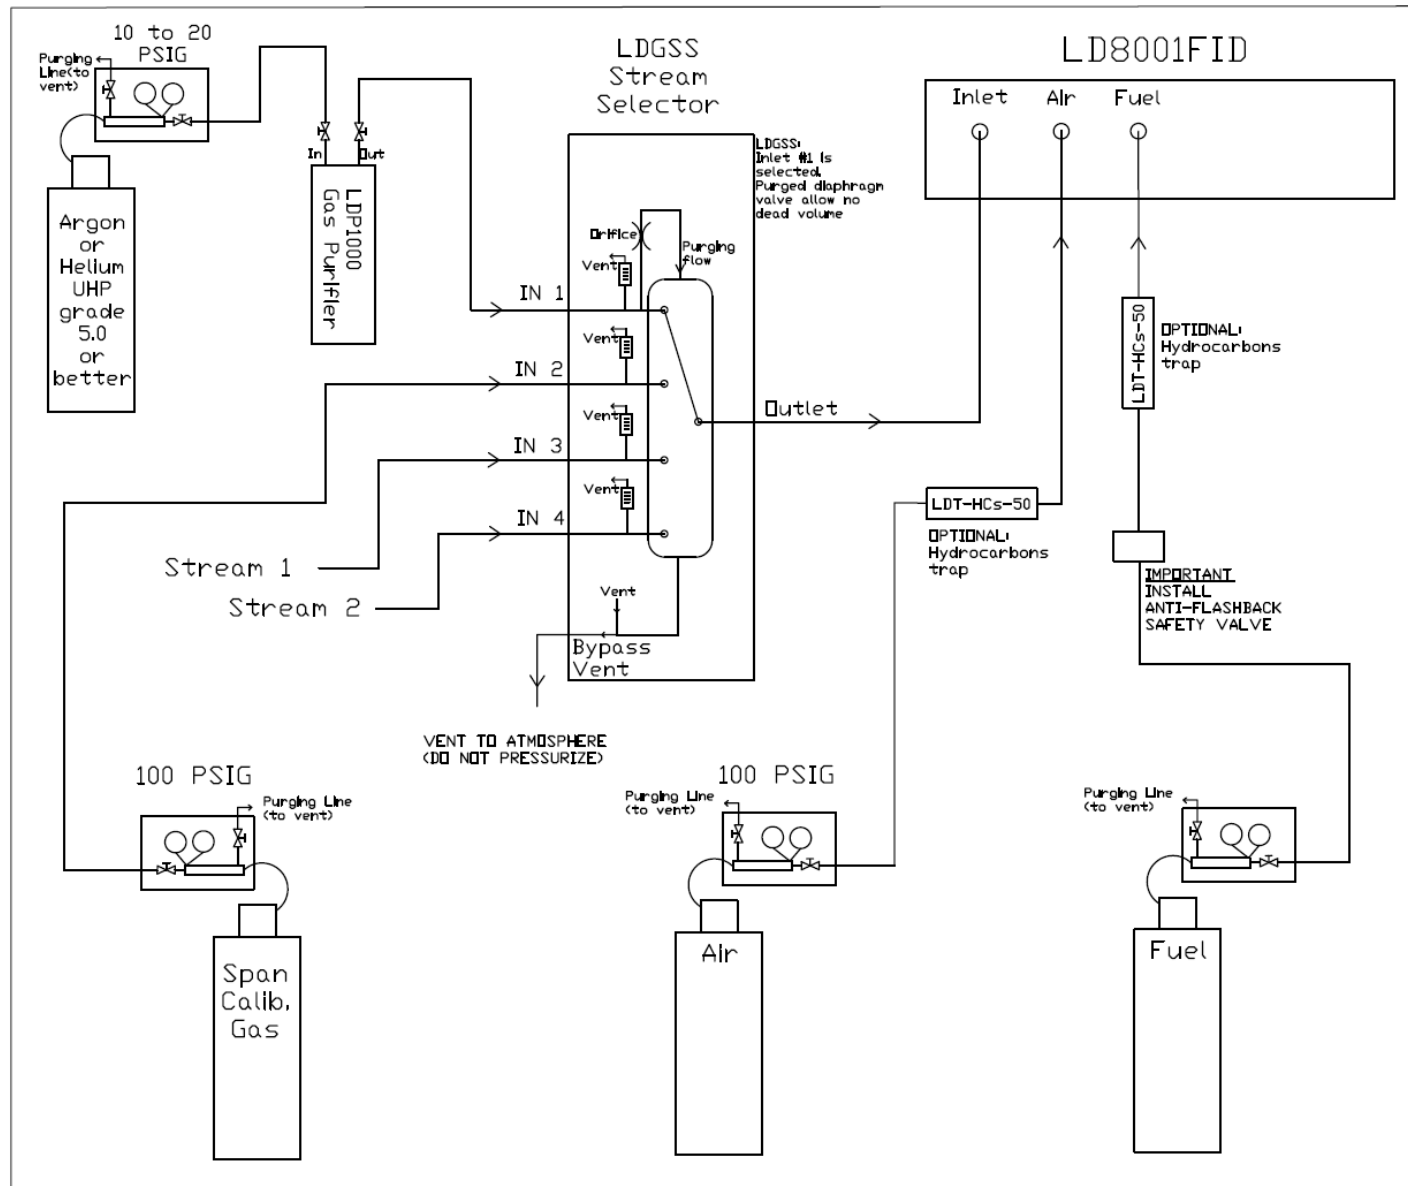

Figure 1: Typical Installation with LDGSS
7. Connect the fuel and Air to the appropriate gas inlet. Note that hydrocarbon traps (LDT-HCs-50) must always be installed on the Air and Fuel inlets as shown on Figure 1. These traps are consumables and must be replaced every year.
The installation will vary depending on the LD8001FID model. For analyzer without integrated stream selectors, please refer to Figure 1.